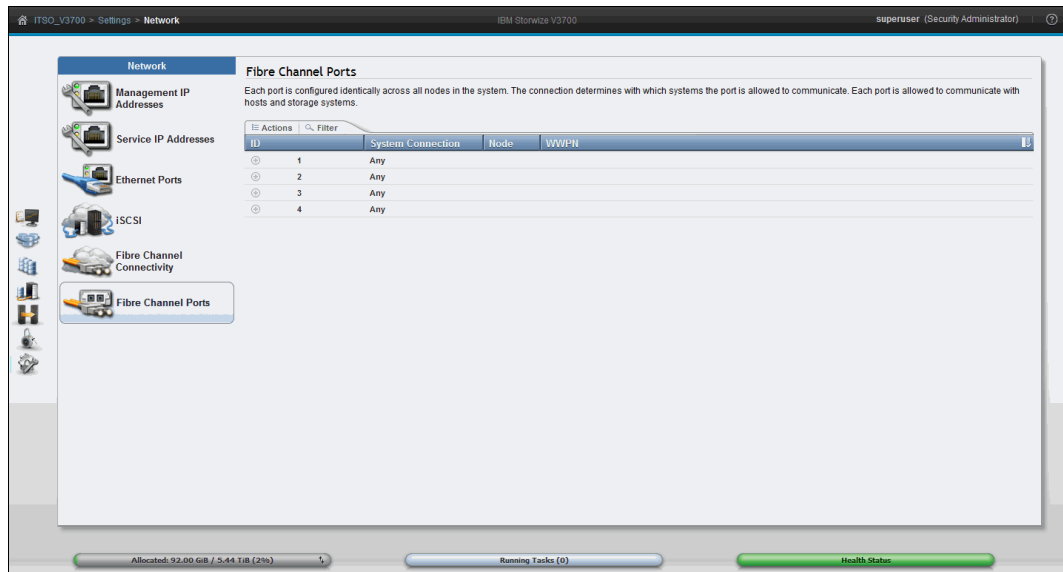

Figure 4-40 The Fibre Channel Ports pane
2. Select **Fibre Channel Ports** and the FC port configuration view should open, as shown in Figure 4-40.